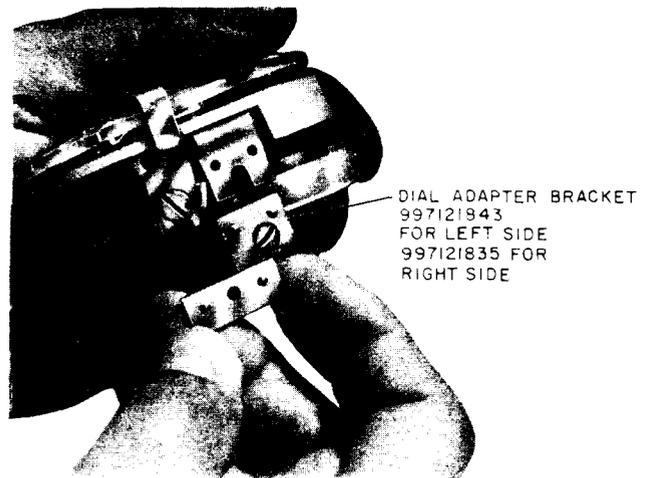

Fig 15—Placing Dial Adapter Brackets on Rotary Dial When Converting from TOUCH-TONE Dial
- (1) From TOUCH-TONE service to rotary, add 997121843 and 997121835 adapter bracket to rotary dial (Fig. 15).
- (2) From rotary to TOUCH-TONE service, dial mounts directly to frame assembly.
- (3) Refer to appropriate Reference section for faceplate and mat ordering information.